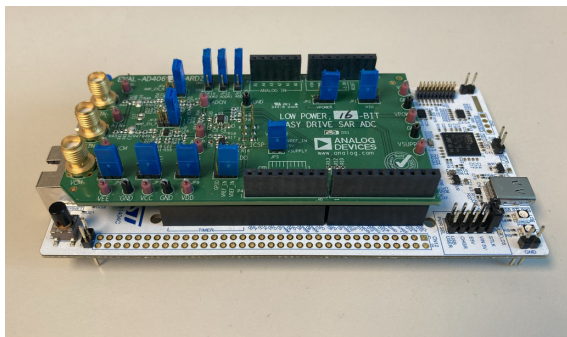

Figure 2. EVAL-AD4062-ARDZ and Nucleo-H563ZI Connections
- ▶ The EVAL-AD4060-ARDZ/EVAL-AD4062-ARDZ connect to the Nucleo-H563ZI via the Arduino Uno compatible headers (P1 to P4). Plug the headers on the bottom side of the evaluation board to the corresponding headers on the top side of the Nucleo-H563ZI (see Figure 2).